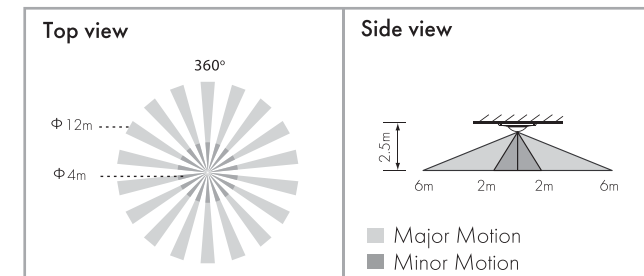

FIG.2
3.1.1 It can be installed at the height of 2 - 4m, the recommended installation height is 2.5m to gain the optimal detection pattern, which detection range can reach up to the diameter of 12m and cover 360° detection angle (See FIG.2).